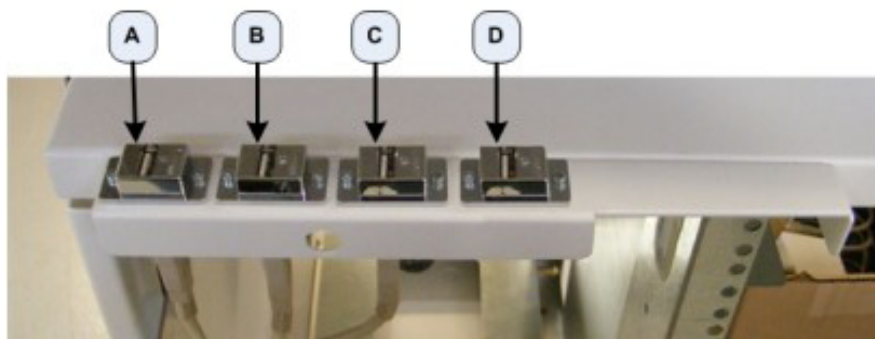

Figure 2-40 Upper Bulkhead Panel Connections
30.) Connect the Mouse to the Console by plugging the Mouse into the Upper Bulkhead Panel. (Item B in Figure 2-40)